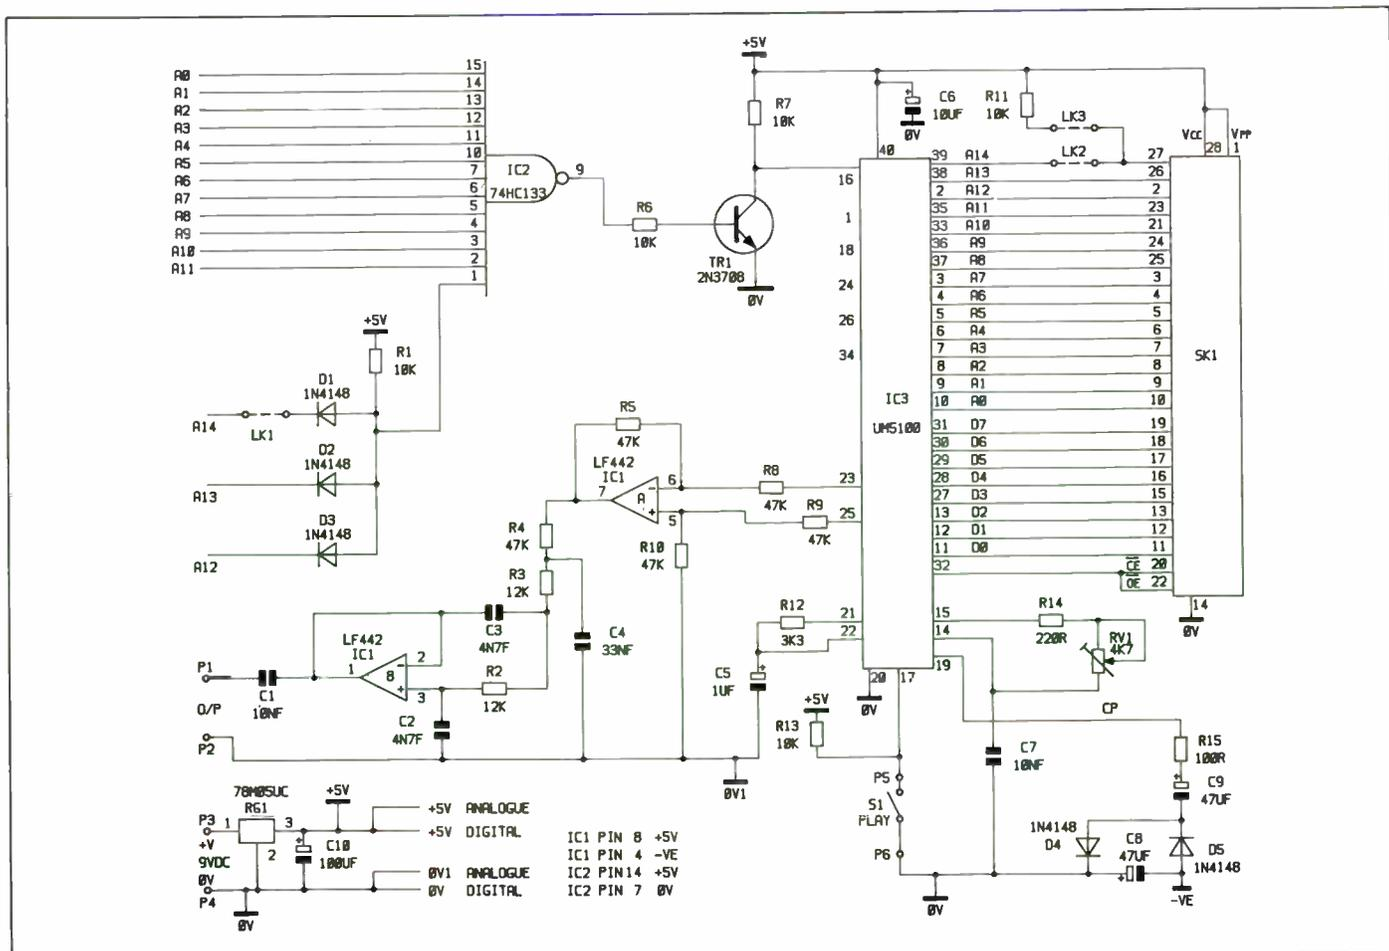

Figure 2. Circuit diagram of Playback Module.
The circuit shown in Figure 1, at first glance seems quite complex, but in reality it is fairly simple. Connection to the playback module is via PL1, IDC cable and CN1. PL1 is a 28 pin DIL header plug, this plugs into SK 1 on the playback module, see Figure 2 for the circuit of the playback module. Pins 1 and 28 are connected to +5V and since the expansion module has its own localized +5V supply, no connection to these pins is made. This allows use of 26 way IDC cable and a 26 way IDC transition header (CN1). All the other pins are connected, these carry address and data information, A14 to A0 and D7 to D0 respectively, device control signals OE and CE, and last but not least the 0V line. These lines with the exception of the device control signals are 'bussed' to EPROM sockets SK1 to SK8, so the sockets are effectively wired in parallel. Only one EPROM is allowed to place information on the data bus at a time, this is achieved using the device control pins 22 and 20 (OE and CE) on SK1 to SK8. Pins 1 and 28 (V_{pp} and V_{cc}) are connected to the +5V line, and pin 14 (0V) to the 0V line. IC2, a 74HC137, is a 3 to 8 line decoder/demultiplexer and latch, this device is used to select the required EPROM. A 3 bit binary word is applied to pins 1, 2 and 3 (A0 to A2), and a low to high transition on pin 4 (LE) causes the binary address on A0 to A2 to be latched. The output from the latch is fed to the decoder/demultiplexer, where the binary input is decoded to a 1 of 8 octal output on pins 15, 14, 13, 12, 11, 10, 9 and 7 (Y0 to Y7), these outputs are fed to the OE and CE pins on SK1 to SK8. The outputs are